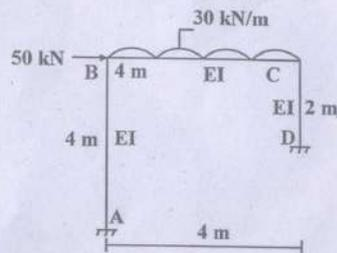

Fig. 3.
6. Analyze the frame shown in Figure 3 by stiffness method. Assume  $EI$  constant. 20